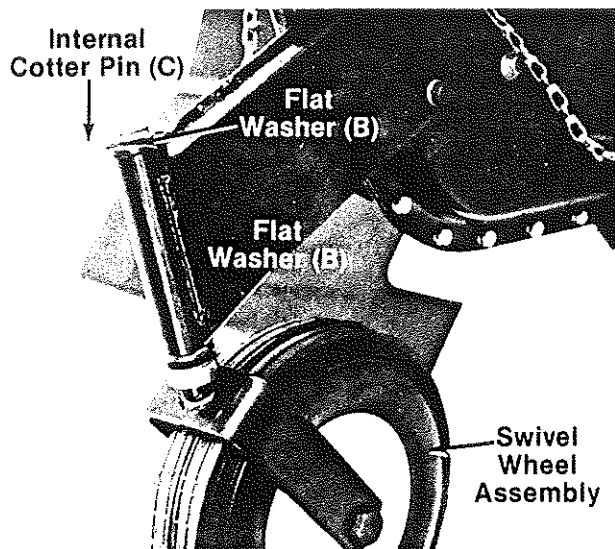

FIGURE 10.
11. Place spacer (A) and one flat washer (B) over swivel wheel. Place swivel wheel in position on tiller. See figure 10. Place the other flat washer (B) over swivel wheel shaft and secure with internal cotter pin (C). See figure 10.